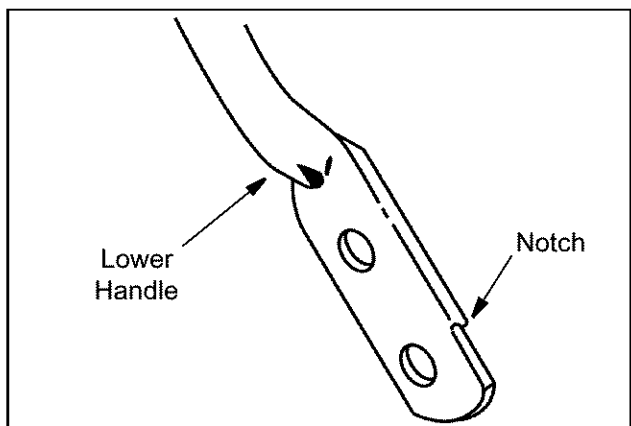

Figure 10
- Turn the lower handle around so the notches on the bottom of the lower handle are facing forward as shown in Figure 10.